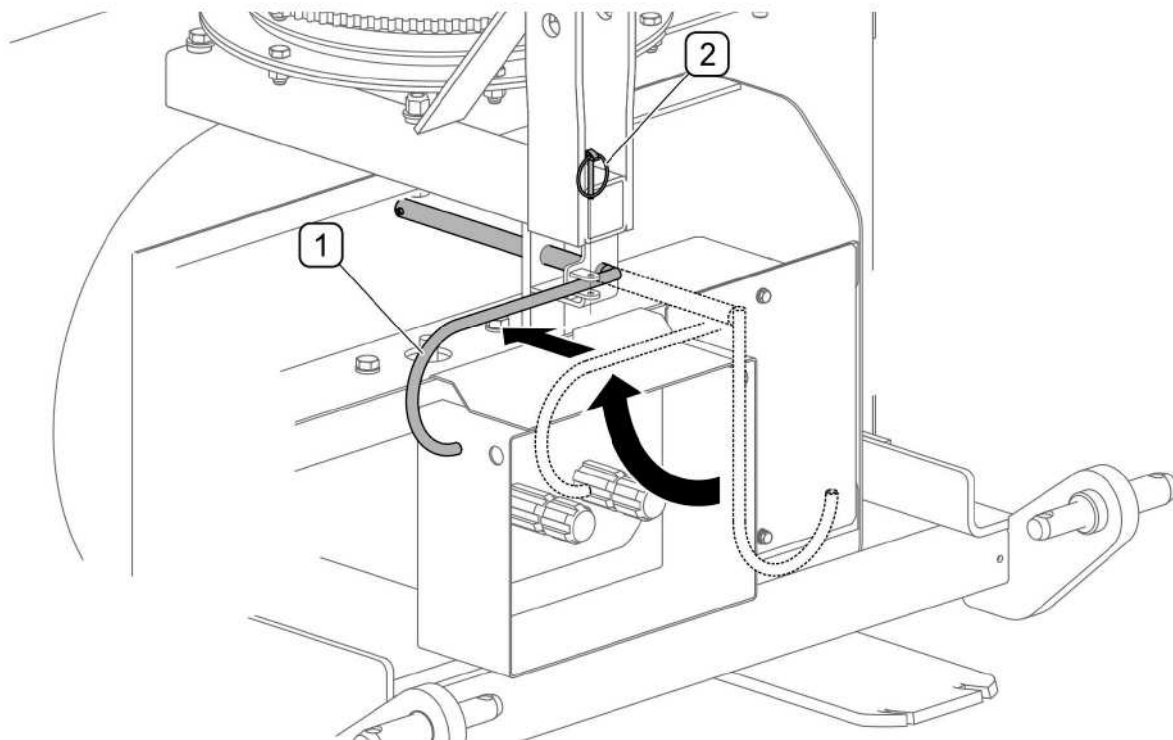

FIG. 4.3 Folding support of telescopic PTO shaft
If the shaft is connected to the machine and suspended on a special support (1) when you connect the shaft to the tractor, the support must be placed in working position (FIG. 4.3) and secured with a linchpin (2).